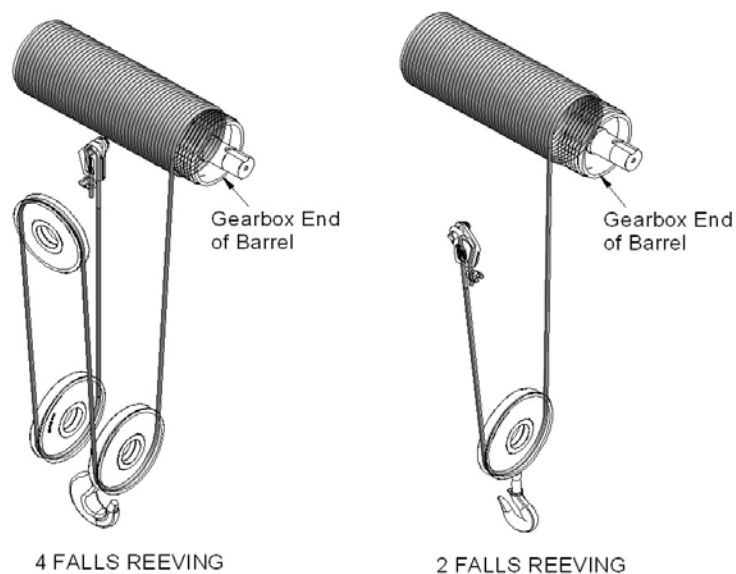
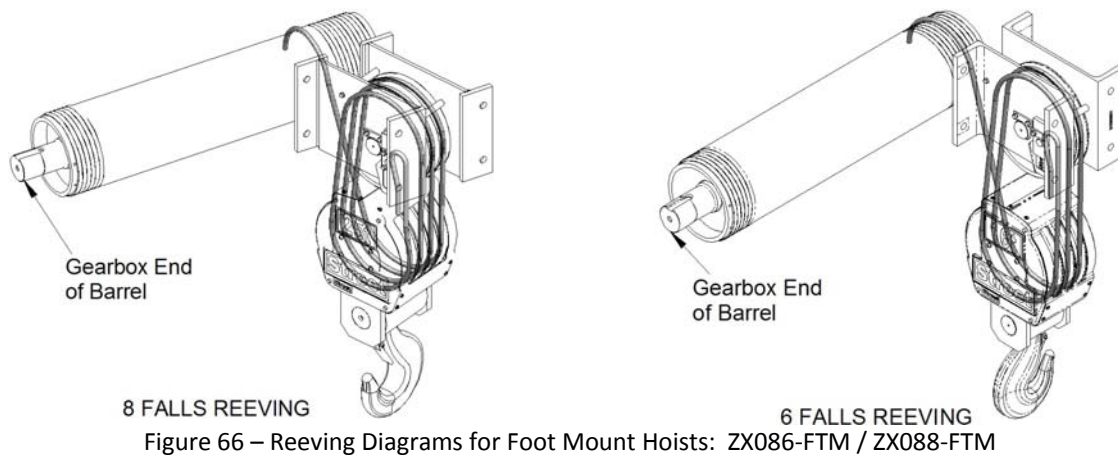

Figure 62 – Reeving Diagrams for ZX6 & ZX8 2&4 Fall Low Head & Crab Hoists
Figure 66 – Reeving Diagrams for Foot Mount Hoists: ZX086-FTM / ZX088-FTM
- Pass the free end of the rope through the sheave system as shown in Figure 62 to Figure 66. Ensure there are no obstructions which may cause twisting of the rope and monitor the rope carefully as it is being pulled through the sheave system. Unwind rope from the barrel as necessary but ensure tension is maintained on the rope as it leaves the barrel.